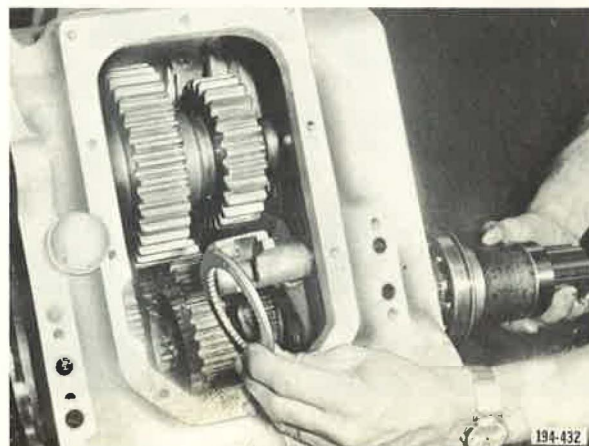

Figure 61. Installing Lo-Range Gear Thrust Washer
7. Start rear mainshaft in case through rear bearing opening. Advance shaft through reverse speed gear. Install mainshaft Lo-range gear (Lo-Lo range for TRXL1071) rear thrust washer on shaft. See Figure 61. Continue advancing shaft through Lo-range gear (Lo-Lo range for TRXL1071) gear until rear bearing positioning snap ring seats against case.